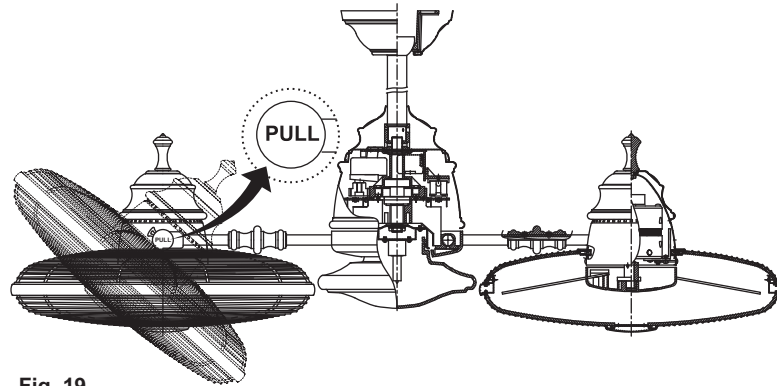

Fig. 19
Step 1. Pull the "PULL" knob out to unlock the fan, tilt the fan body to desired location, push back the "PULL" knob to lock the fan. (Fig. 19)